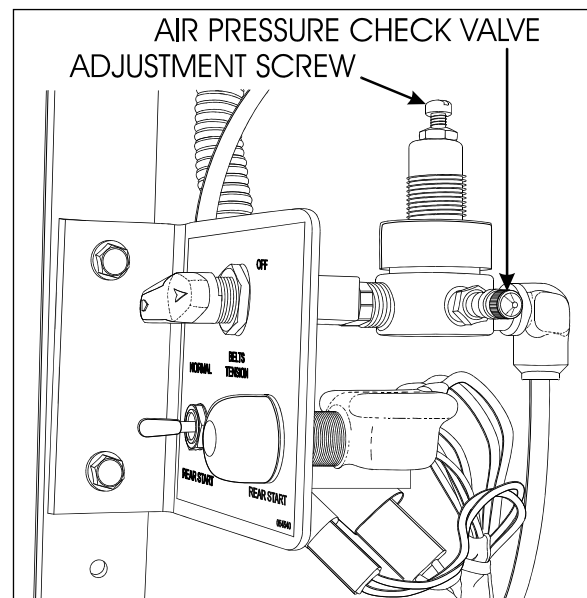

FIGURE 19: TENSIONING VALVE
1. Open engine compartment rear doors and locate the belt tensioner two-way control valve (Figure 19), mounted above the engine R.H. side door next to the pressure
3. Reset belt tensioning pressure control valve (Figure 19). Pressure is factory set to 45 psi (310 kPa), periodically check proper pressure.